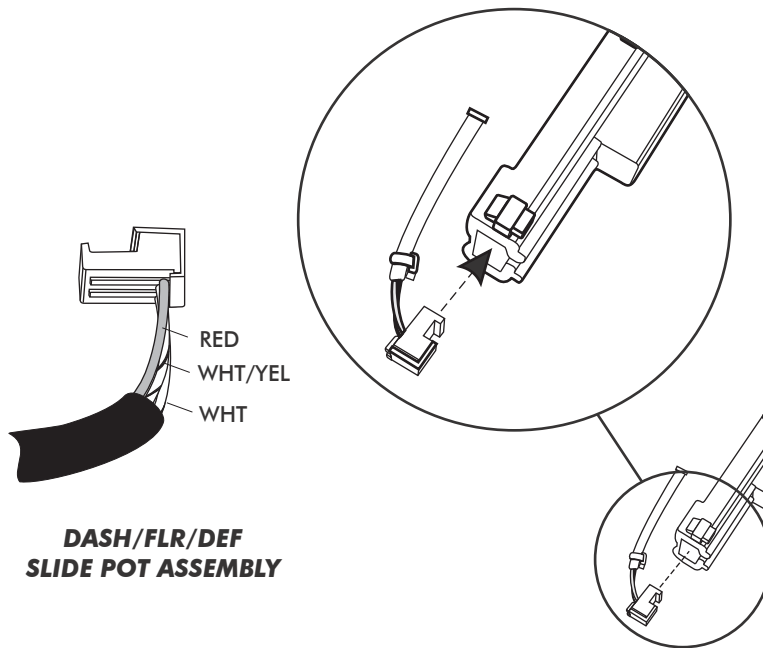

FIGURE 5
- LOCATE THE CONTROL PANEL WIRE HARNESS AND PLUG THE CORRESPONDING WIRES INTO THE CORRECT SLIDE POT ASSEMBLY AS SHOWN IN FIGURE 5 BELOW.